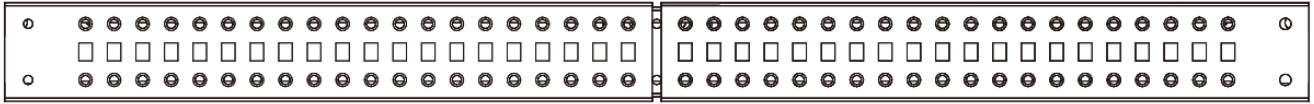

Figure 2
3. Slide the Left corner Brackets and the Right corner Brackets, inward along the Center Sections, and align the Center Sections with the hole on the Left corner Brackets and the Right corner Brackets. (Figure 2)